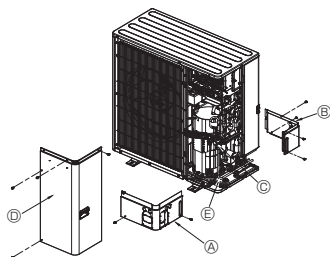

Fig. 4-3
4.3. Aukstumagēnta caurules (Fig. 4-3)